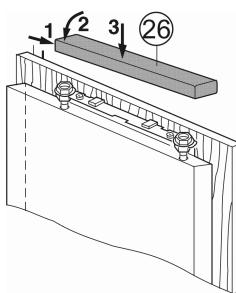

Fig. 24
- Position the upper cover Fig. 24 (26) and snap into place.